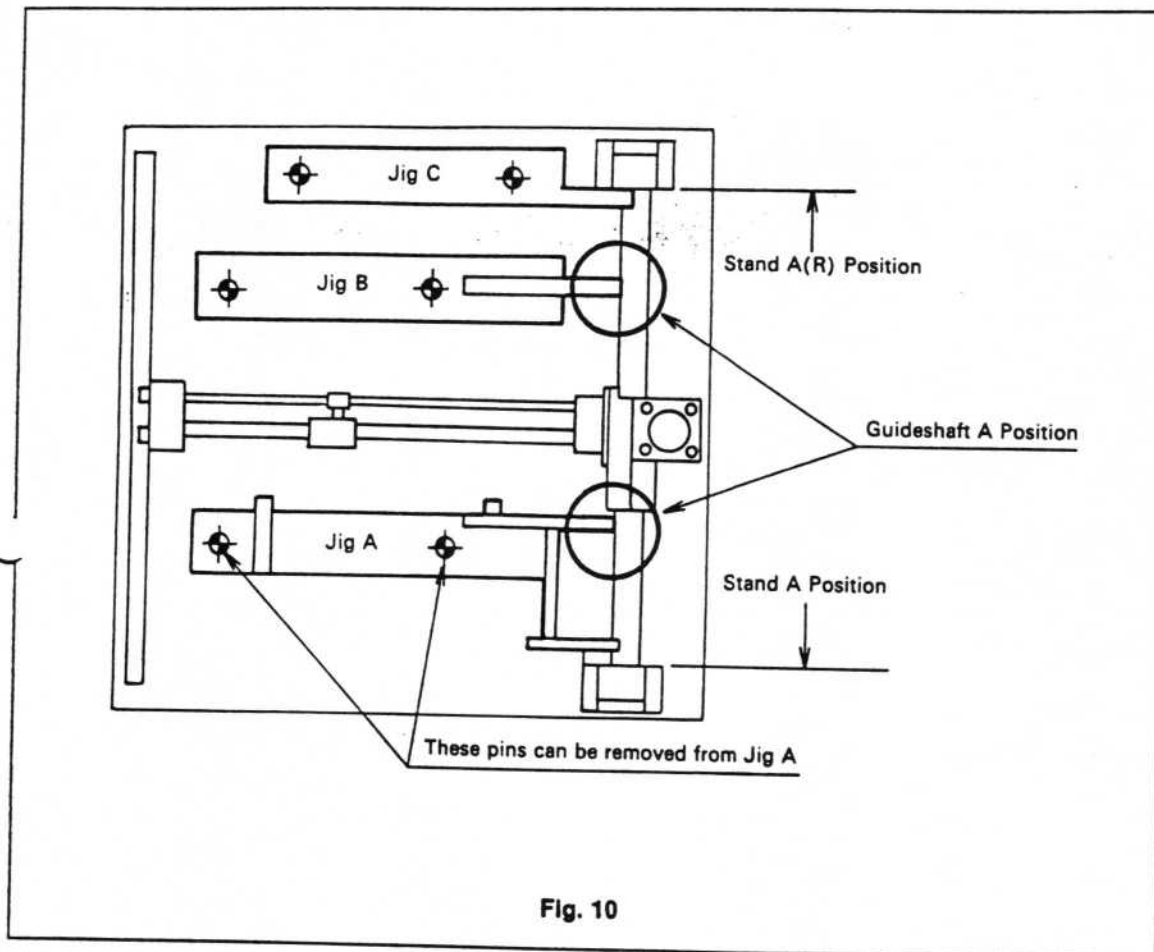

Fig. 10
(1) Positional relation of Y axis and base plate (Figure 10).